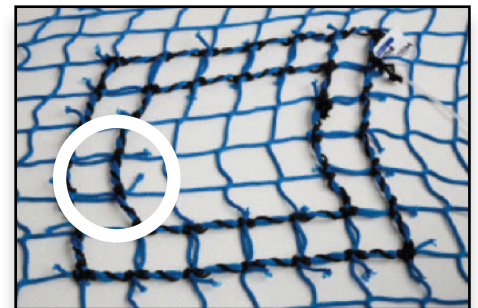

Figure 1
- lacing repair twine to both the inside and perimeter meshes of the patch (figure 1)